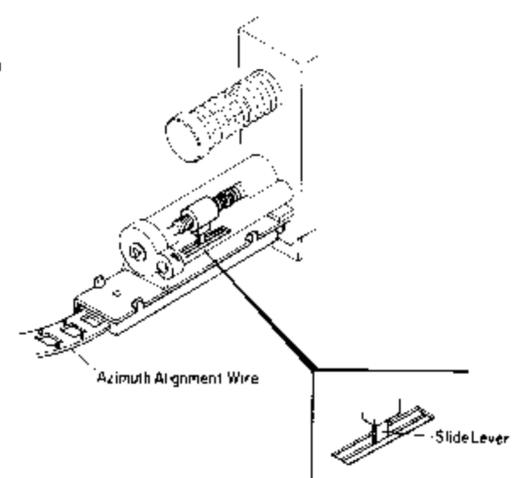

Fig. 2.14
Refer to Figs. 2.14 — 2.16.
- (c) Adjust the Azimuth Alignment Knob so that the Slide Lever of the Azimuth Alignment Wire is located at the center of the slit of the Azimuth Alignment Wire as shown in Fig. 2.14.
| 13 | Record Head Height Adjustment and Azimuth Alignment | Tone 400 Hz and 15 kHz | VTVM to Output Jacks | Record, Playback Monitor SW — Tape Tape SW — SX Eq. SW — 70 μ s Dolby NR SW — OFF | PH Height Gear Record Head Azimuth Alignment Screw Rec. Cal. P.C.B. (Level) VR105,VR205 (Bias Current) VR102,VR202 Main P.C.B. VR304 (Phase) | <ol style="list-style-type: none"> 1. In Stop mode, press the Azimuth Alignment Start button to ON. Then adjust the Azimuth Alignment knob so that the Slide Lever of the Azimuth Alignment Wire is located at the center of the slit of the Azimuth Alignment Wire as shown in Fig. 2.14. After above adjustment, press the Azimuth Alignment Start button to OFF. 2. Record Head Height Adjustment: <ol style="list-style-type: none"> a. Load a reference SX tape (DA09025A), then press the Record and Play buttons. b. Press the Level Calibration Start button to oscillate 400 Hz. c. Adjust the Sensitivity Control VR105 (VR205) and Bias Control VR102 (VR202) to the center position. d. Adjust the RH Height Gear to obtain maximum readings of both channels on the VTVM. 3. Record Head Azimuth Alignment: <ol style="list-style-type: none"> a. Load a reference SX tape (DA09025A), then press the Record and Play buttons. b. Press the Bias Calibration Start button to oscillate 15 kHz. c. Adjust the Record Head Azimuth Alignment Screw to obtain maximum readings of both channels on the VTVM. d. Repeat 2 and 3 one or two times to obtain optimum performance. 4. Azimuth Phase Adjustment: <ol style="list-style-type: none"> a. Press the Record and Play buttons. b. Press the Azimuth Alignment Start button to ON, then adjust VR304 on the Main P.C.B. Ass'y so that the red indicator in the middle of the Azimuth Indicator is lit up. |